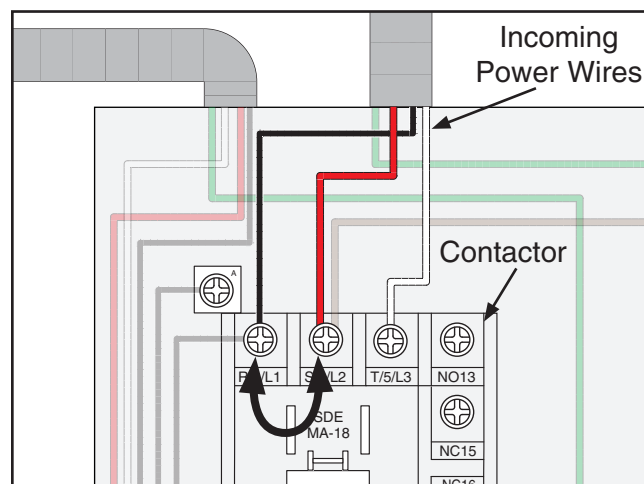

Figure 5. Example of switching incoming power wires L1 and L2.
2. Remove the magnetic switch cover and disconnect the L1 and L2 wires, shown in **Figure 5**.